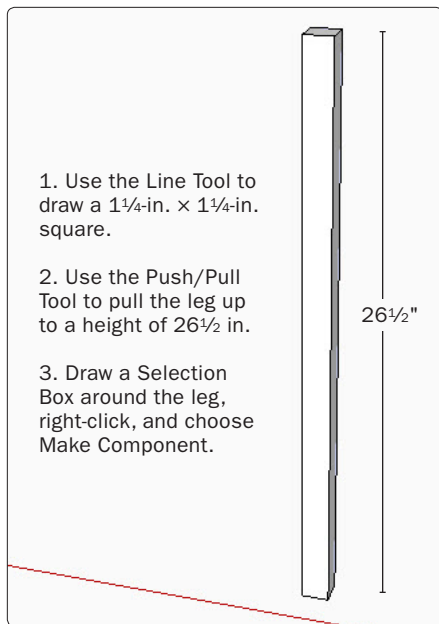

Figure 3. Rough out the leg component.
Step 1 Create one rough leg, using the Line and Push/Pull Tools (Figure 3). To generate accurate sizes, type actual lengths, which appear in the Measurements Box. Make the shape a component and name it Leg. You'll add the chamfers and mortises later.